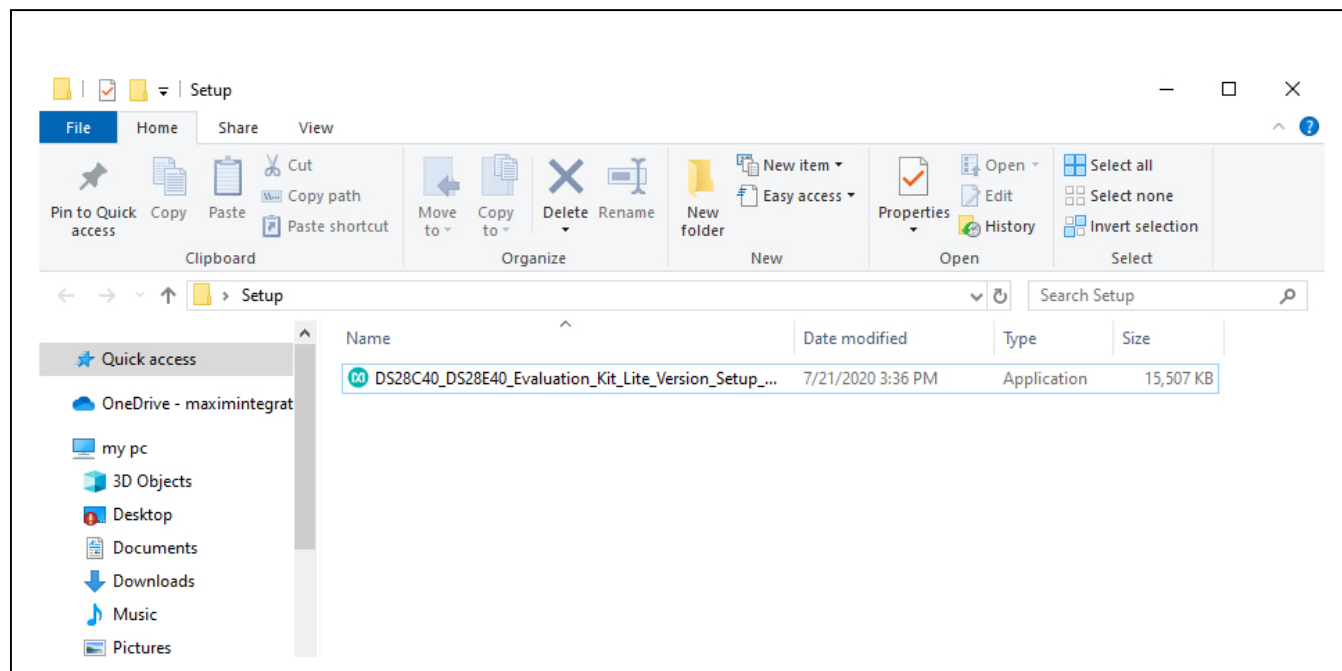

Figure 1. File Viewer
- 2) In a file viewer (Figure 1), double click on the **DS28C40\_DS28E40\_Evaluation\_Kit\_Lite\_Version\_Setup\_V2\_0\_0** file to begin the installation.